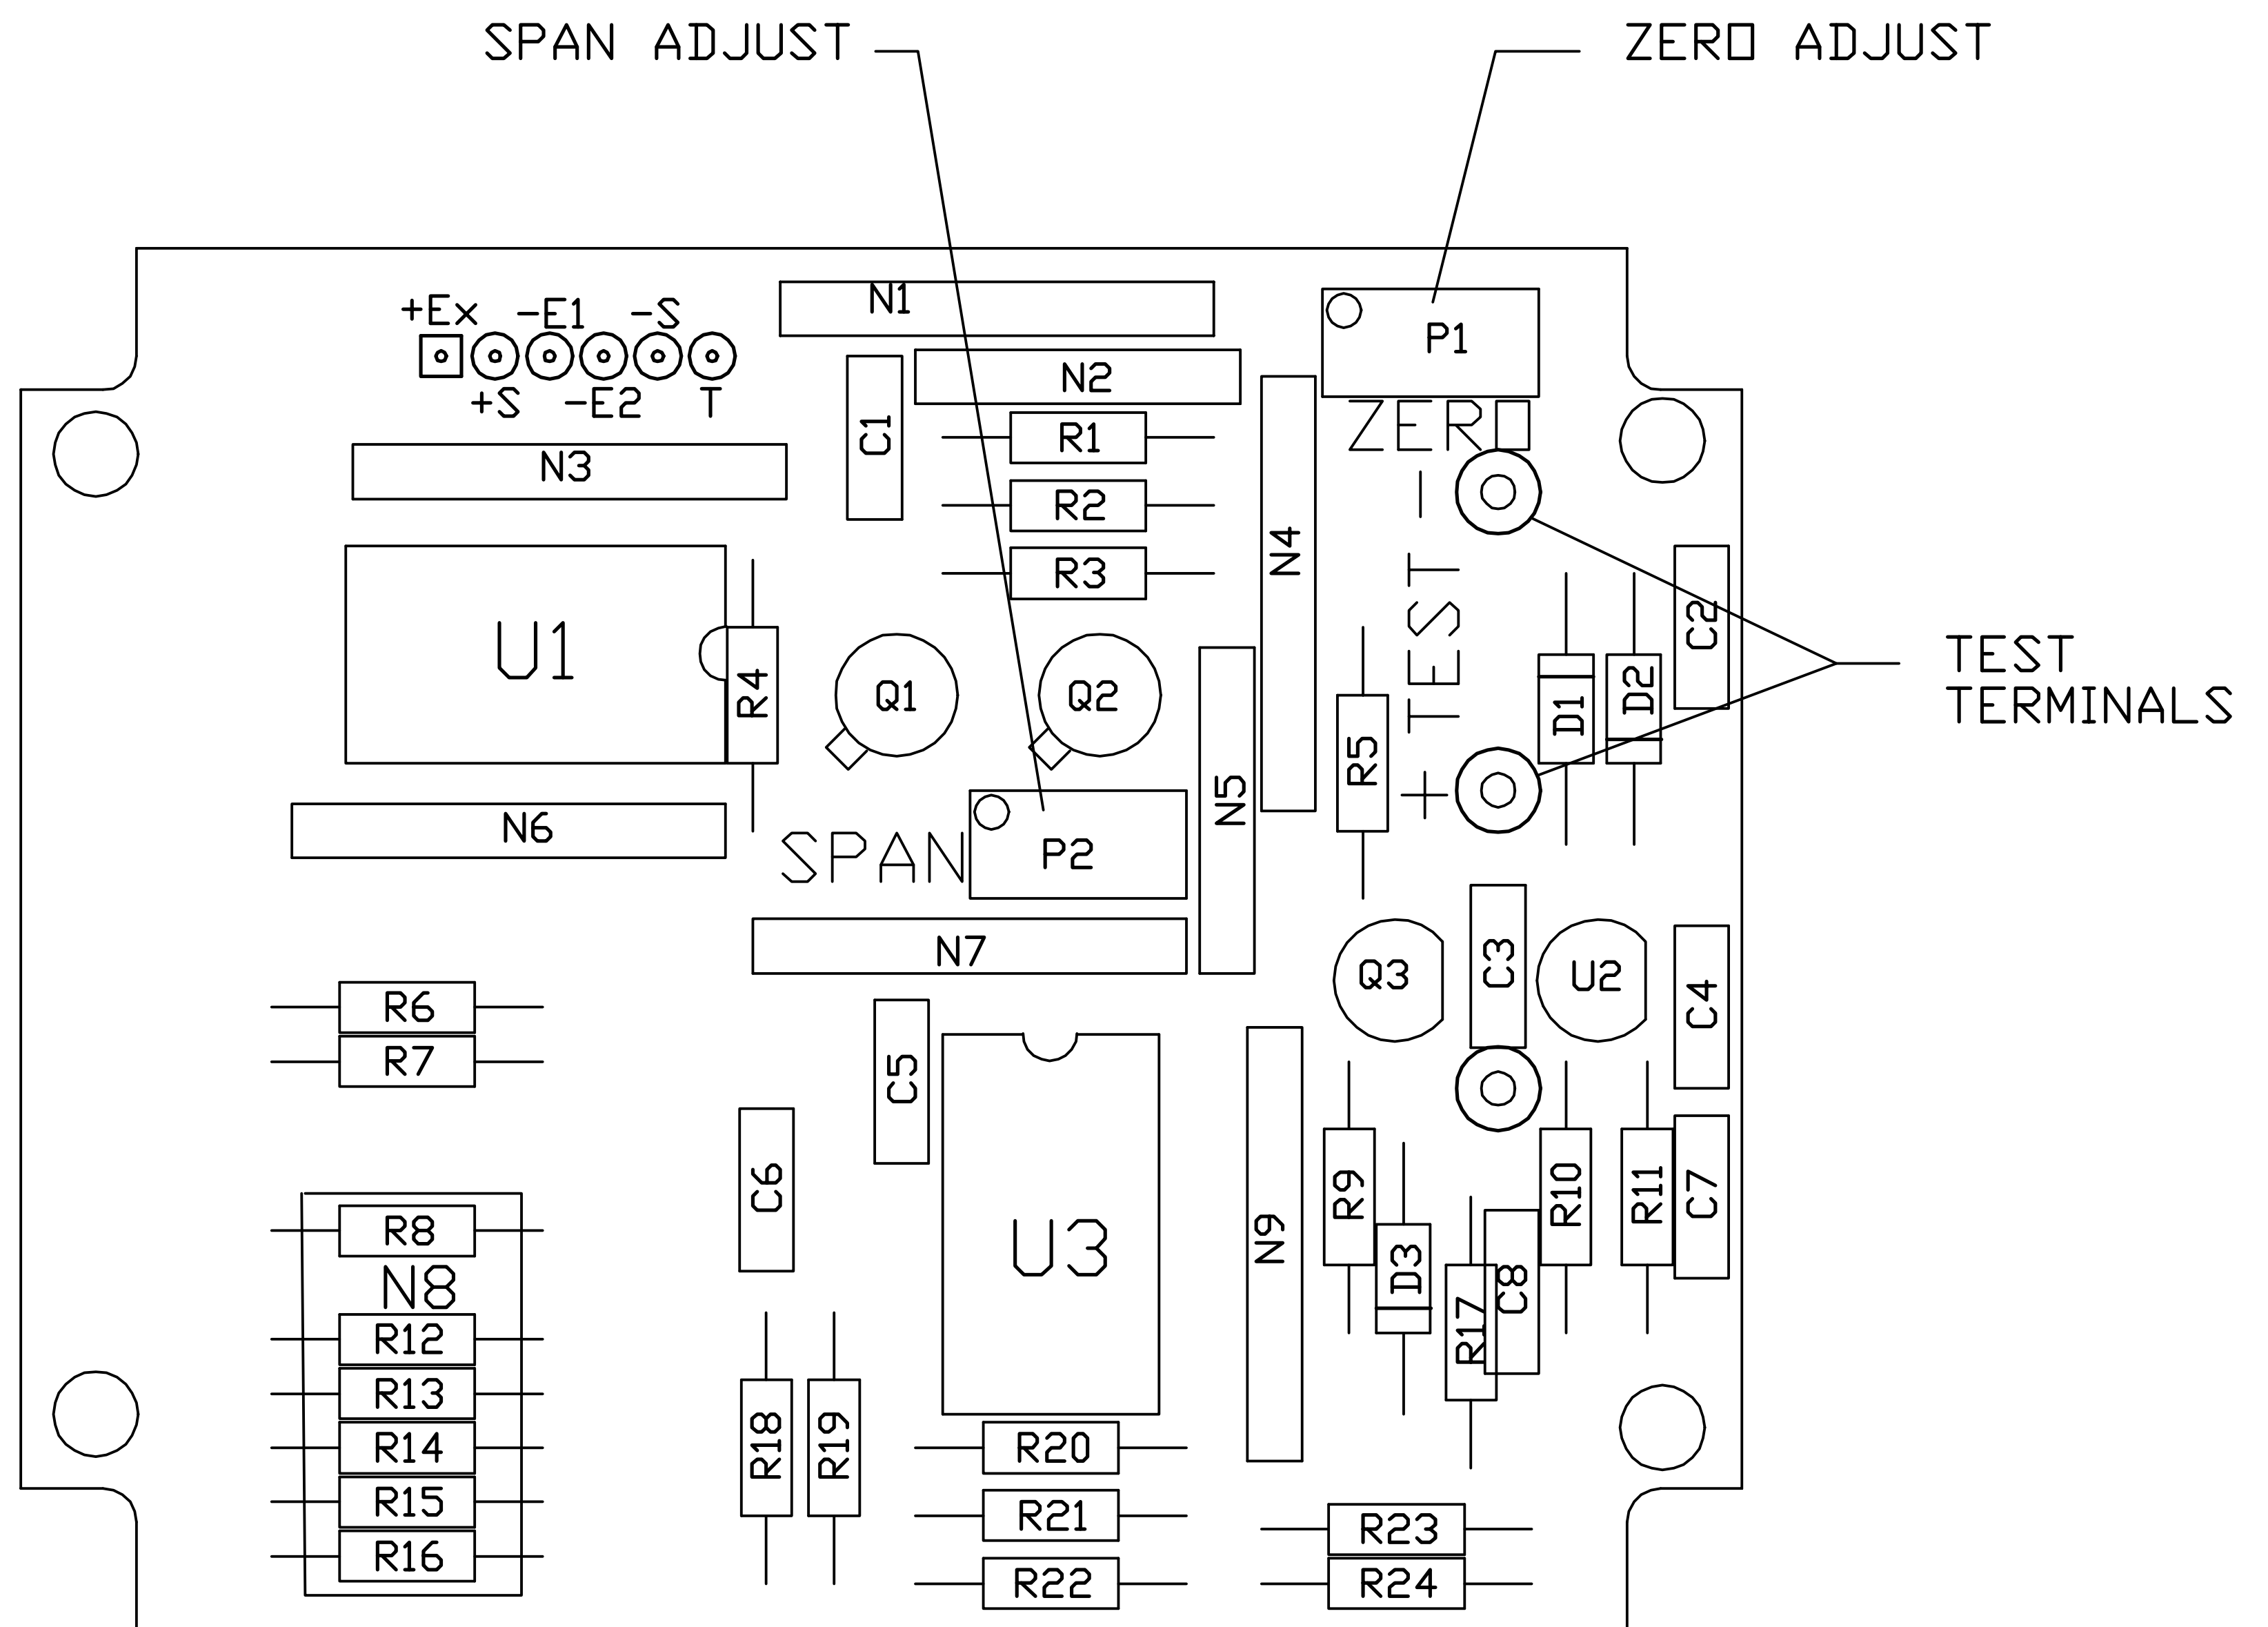

FIGURE 6-2. MAIN BOARD ASSEMBLY-CALIBRATION ADJUSTMENTS
- e) Verify that the pressure transducer output current indication is  $4.0 \pm 0.16$  mA dc. Perform ZERO adjustments to obtain the pressure transducer's output as specified. Zero is accomplished by a screwdriver adjustment of the ZERO potentiometer located on the MAIN Board Assembly inside the circuit compartment of the housing (Figure 6-2).
- h) Verify that the pressure transducer output current indication is  $20.0 \pm 0.16$  mA dc. Perform SPAN adjustments to obtain the pressure transducer's output as specified. Span is accomplished by a screwdriver adjustment of the SPAN potentiometer located on the MAIN Board Assembly inside the circuit compartment of the housing (Figure 6-2).